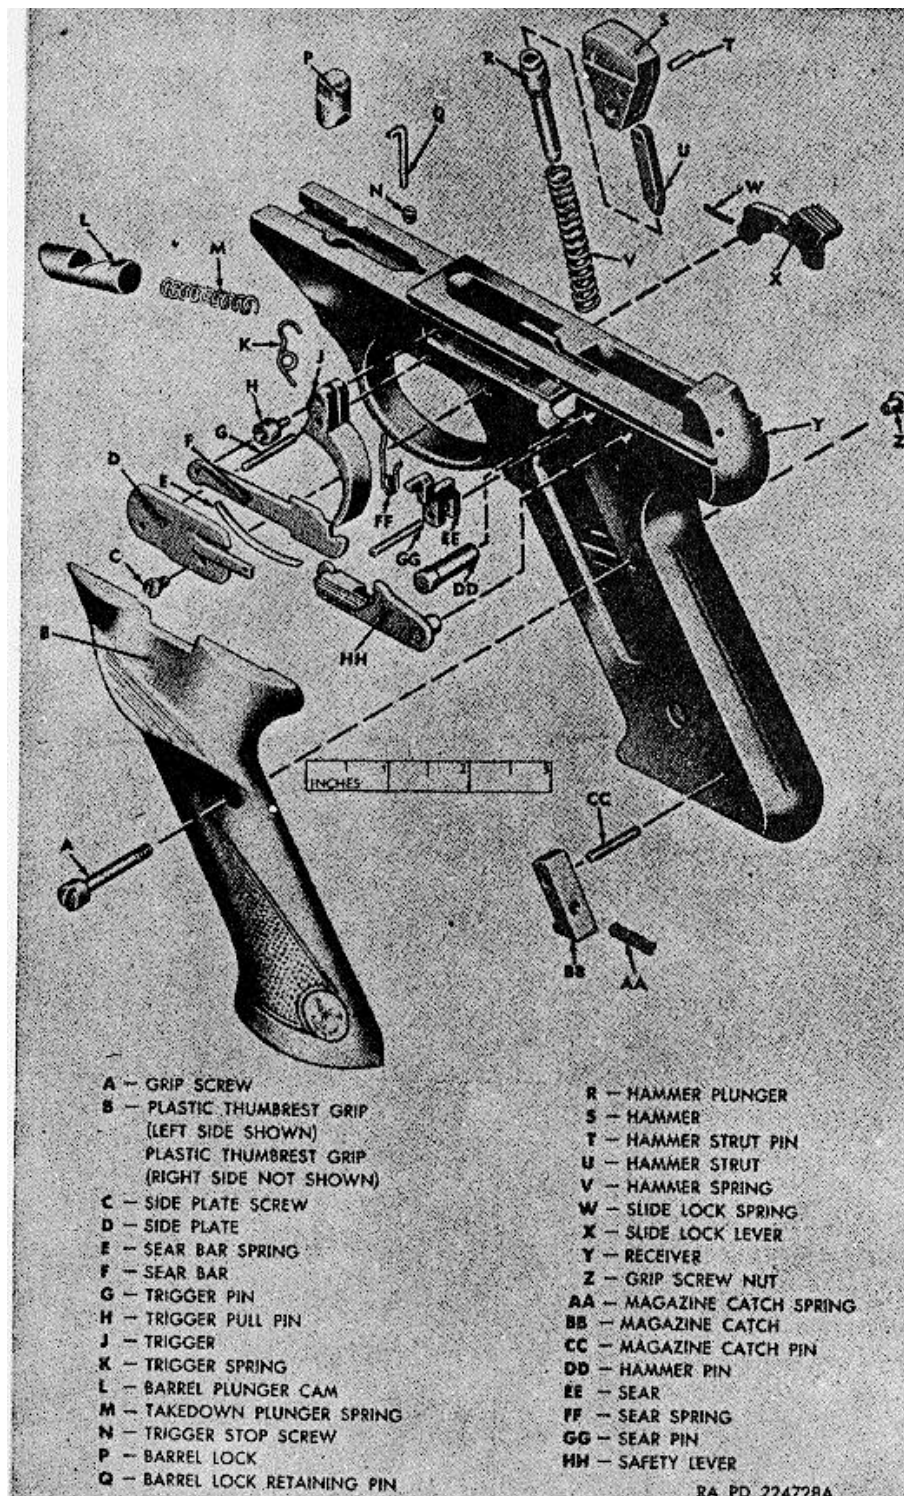

Figure 54. Frame group-exploded view (high standard).
Note. The key letters shown below in parentheses refer to figure 54.
a. *General.* The frame group (fig. 54) consists mainly of the grip group, barrel plunger group, and trigger group.
- (1) Unscrew the grip screw (A) from the grip screw nut (Z) and remove the two grips (B).
- (2) Drive out the magazine catch pin (CC). Remove magazine catch (BB) and the magazine catch spring (AA).
- (3) Remove the slide lock lever (X) and slide lock spring (W). Separate spring and lever only if replacement of either part is required.
- (4) Unscrew the side plate screw (C) and remove the side plate (D). Remove the safety lever (HH) from the frame. Pull the sear bar spring (E) from the slot in frame and remove the sear bar (F)